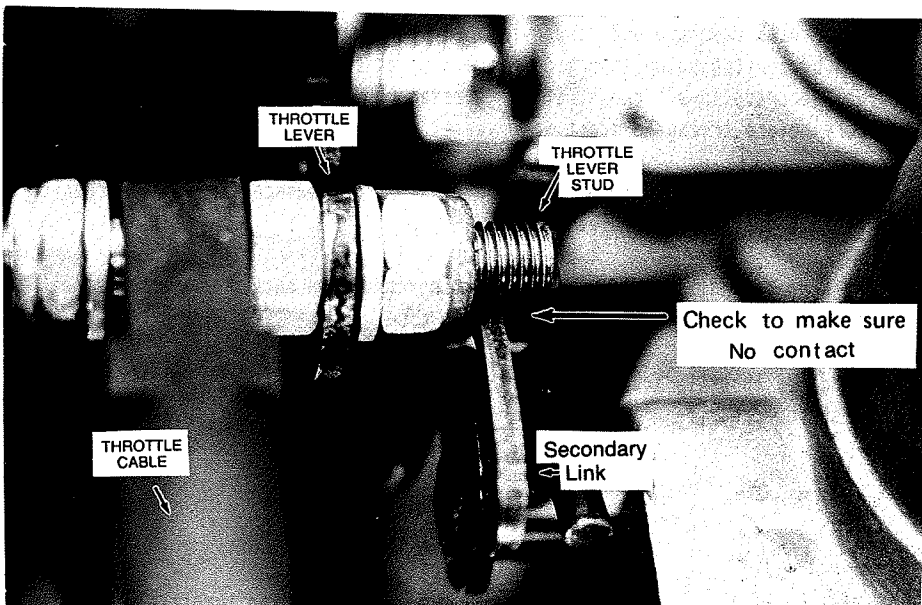

Figure 3
7. Advance throttle to the wide open position and be sure throttle lever stud does not interfere with the secondary link (See Fig. 3). This is very important to ensure proper operation of the secondaries. If the stud or nut hits the secondary lever, the secondaries could be held closed or open causing possible loss of performance or uncontrolled acceleration.